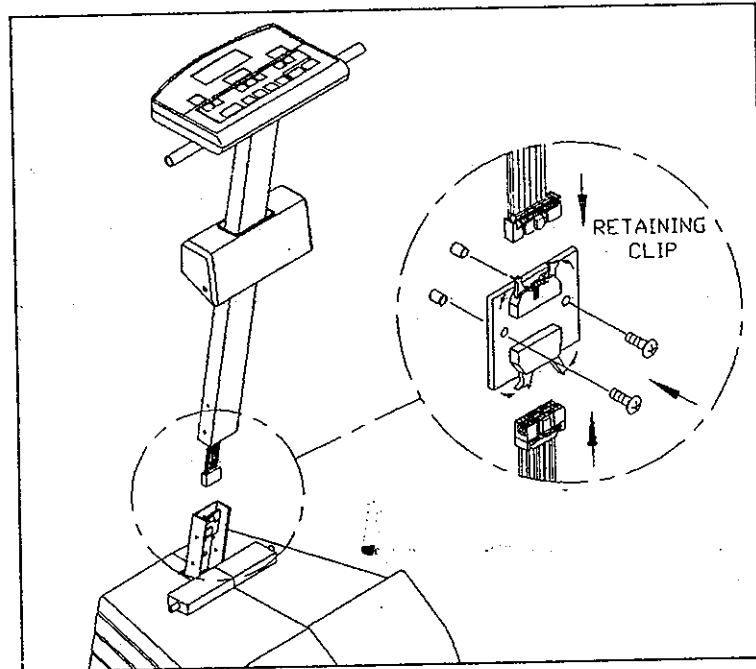

Fig. 5
1. Install the new terminal and secure with two bushings and screws. Then plug two 16 pin cables into their sockets on the terminal (see Fig. 5).